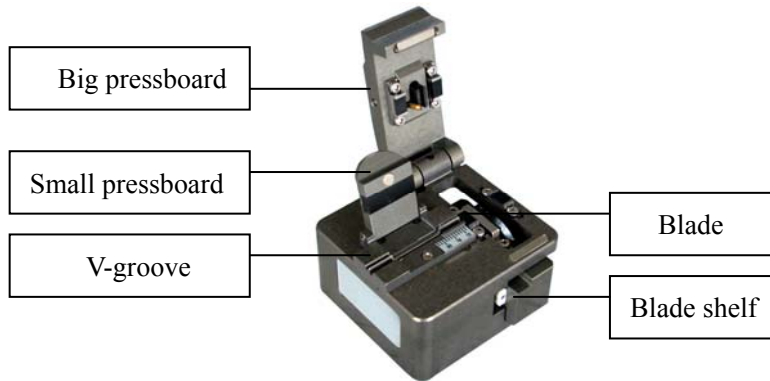

Figure 1
1. Facing the blade shelf and open the big pressboard and small pressboard. (See figure 1).